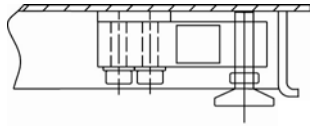

Figure 1c. Load Cell Foot in shipping position.
2. At this position use a 1/2" wrench to rotate the jam nuts until they lock against the load cell. See figures 1c and 1d.